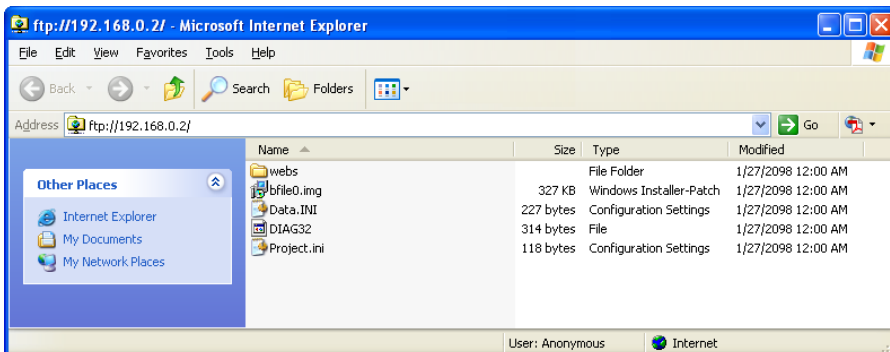

Figure 10 File structure on the parameterization memory
- In the example, Microsoft Internet Explorer opens (see Figure 10). The file structure on the parameterization memory will be displayed.